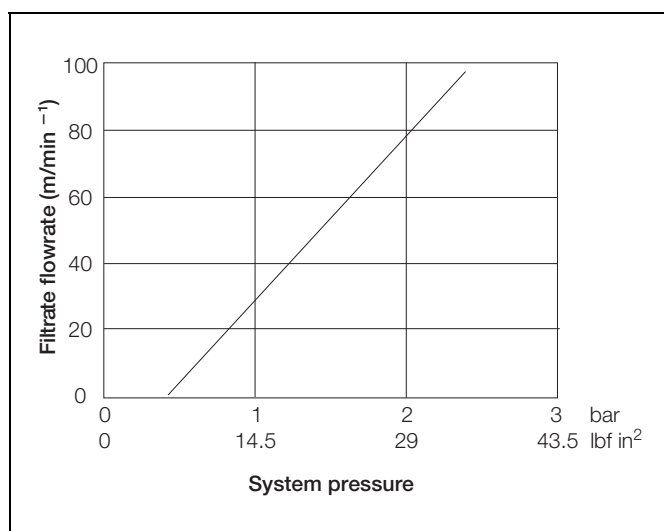

Fig. 3.1 Typical flowrate for a new filter at various sample pressures
3. Gradually close the pressure regulating valve until filtrate flow commences. Continue closing the valve until the filtrate flow is sufficient to feed the analyzer(s) – see Fig. 3.1.